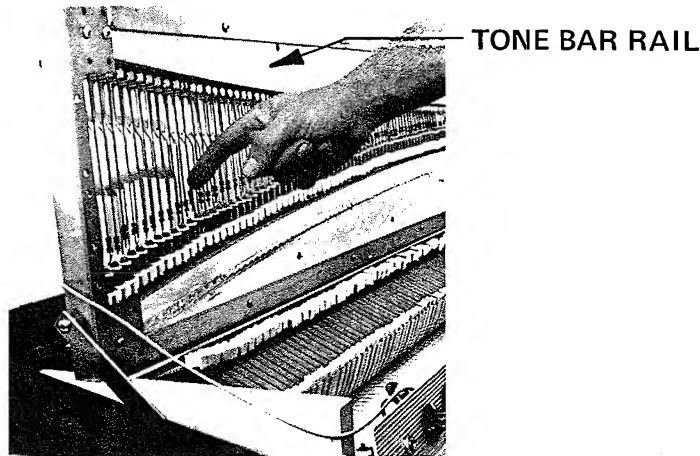

Figure 5-2. Harp Position For Tuning The RHODES
1. Remove the Harp Mounting Screws and rotate the Harp to a vertical position (Figure 5-2).